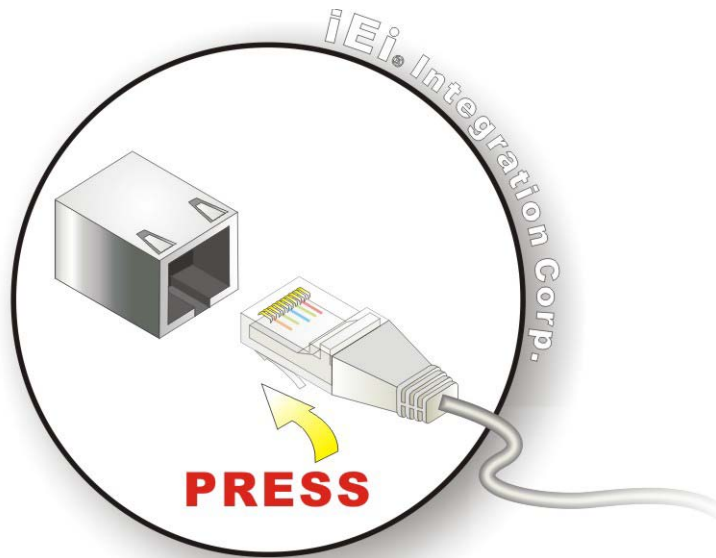

Figure 3-16: LAN Connection
Step 2: **Align the connectors.** Align the RJ-45 connector on the LAN cable with one of the RJ-45 connectors on the TANK-820-H61. See **Figure 3-16**.